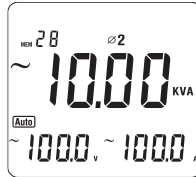

Figure 16
- The triple displays shows the first phase value of apparent power kVA, AC voltage V and AC current A.. Then press **SELECT** again to choose the second phase $\varnothing 2$, see figure 16.